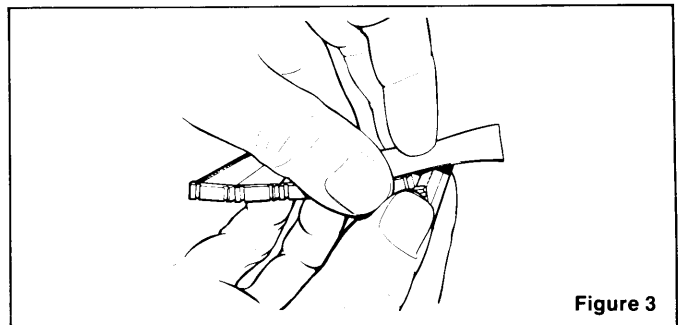

Figure 3
1. Remove a connector cover from paper liner by snapping cover down against adjacent cover and then pulling laterally away from liner. (Figure 3)